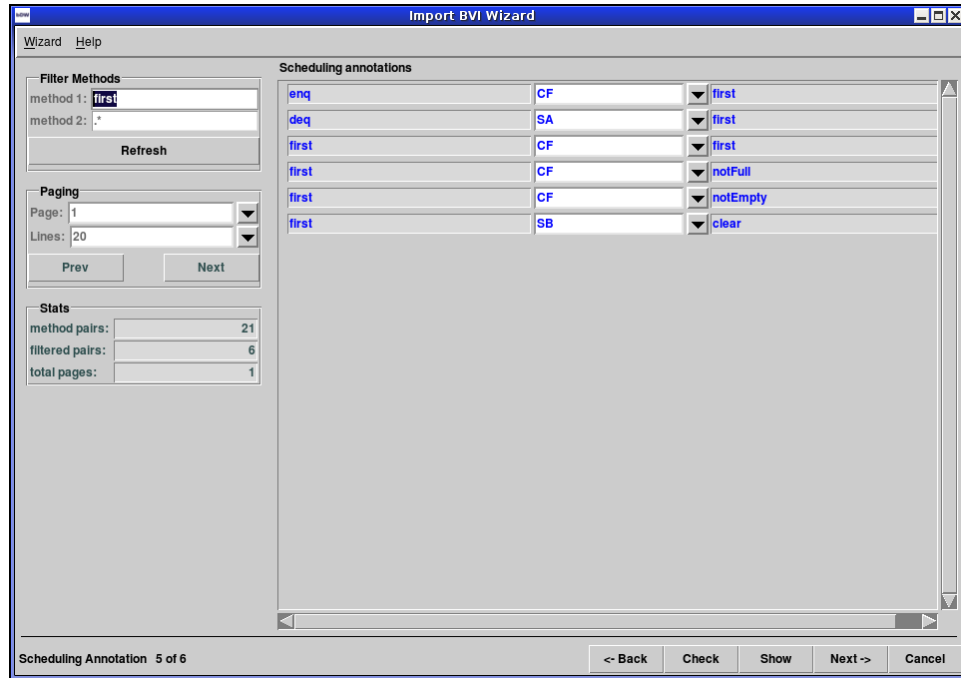

Figure 32: Step 5: Scheduling Annotations
Step 5 of the wizard, shown in Figure 32, defines the scheduling constraints between the methods of the module, as specified by the `schedule` statements.